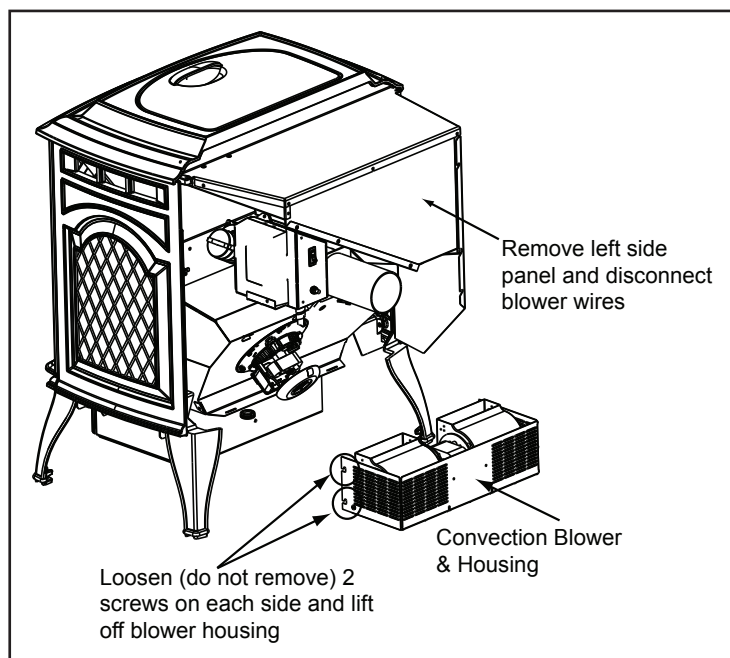

Figure 35.1
- There are 2 screws on each side of the housing. Loosen all 4 screws, but do not remove them. Lift the blower housing up slightly and slide towards you. **Figure 35.1.**